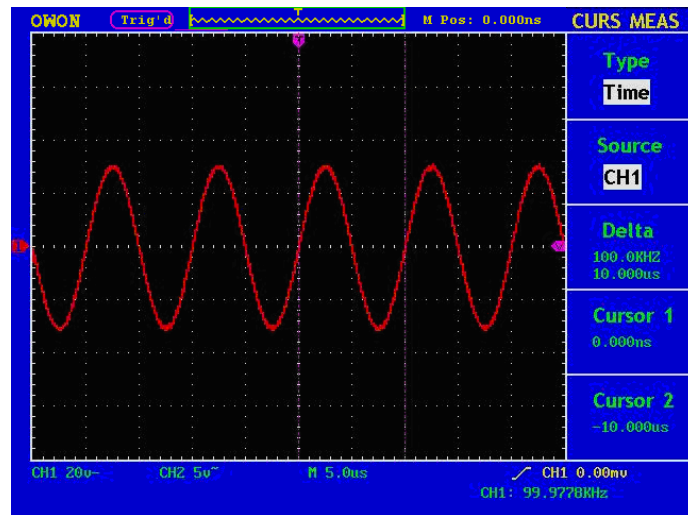

Fig.5-47 Wave Form of Cursor Measurement
4. Move CURSOR1 and CURSOR2 and the results change accordingly as in **Fig.5-47**